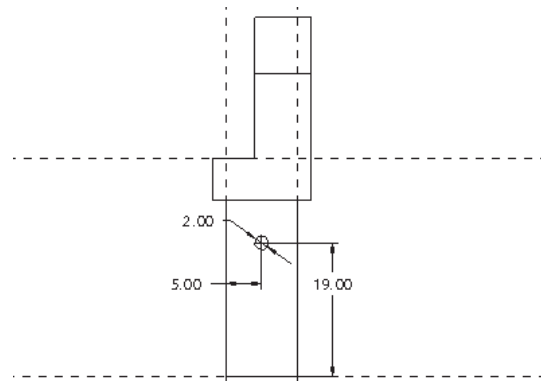

Figure 4-70 Sketch and dimensions for cut
1. Turn the model display to **No Hidden**. Draw the sketch of the cut feature and add dimensions to it, as shown in Figure 4-70.